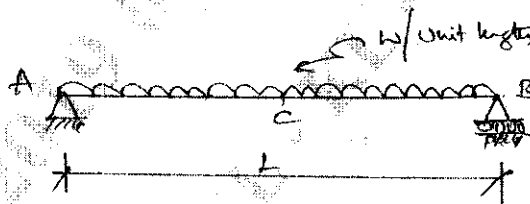

Fig.Q5(b)
b. Determine the deflection at the center of the loaded simply supported beam as shown in Fig.Q5(b) by Castiglian's theorem.